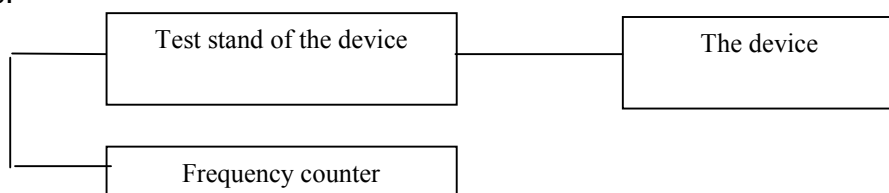

Fig.7.5.
7.10. Operational frequencies of the device and accuracy of their set is checked under the diagram showed on fig. 7.5.